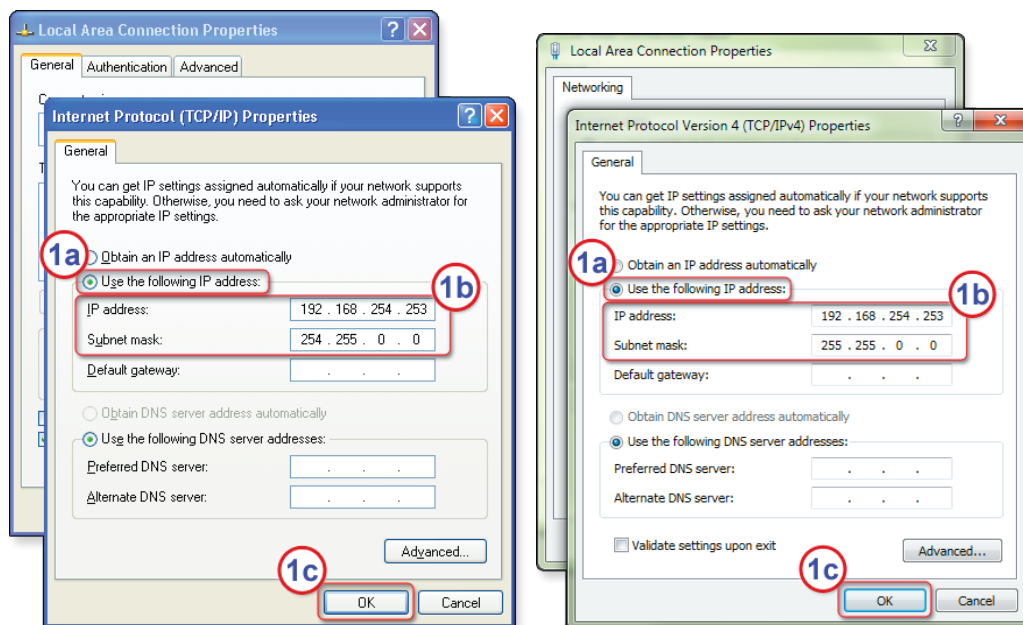

Figure 18. Step 5: Changing the IP Address of the PC
- a. Click the **Use the following IP address** button (see figure 18, 1a).